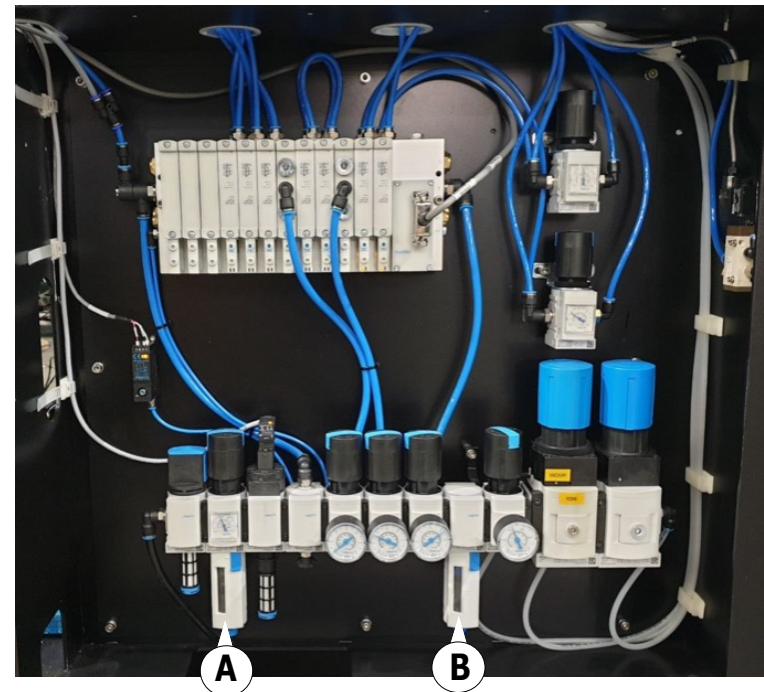

Figure 7-16 Pneumatic Panel
2. Locate the water filter (Figure 7-16, A) and oil filter (Figure 7-16, B) drain valves.